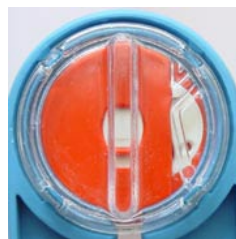

Fig. 9
- Place the bottle tool on the screw cap (Fig. 9).